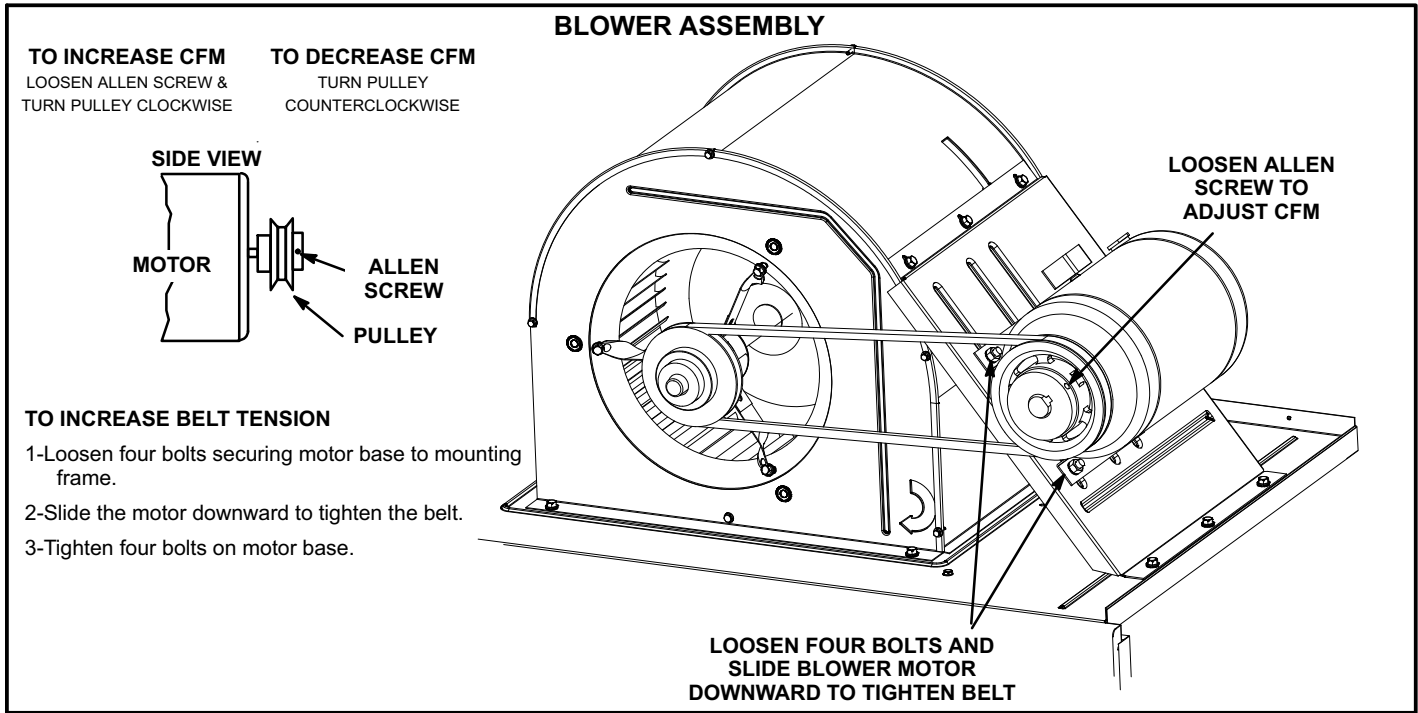

FIGURE 7
The blower RPM can be adjusted at the motor pulley. Loosen Allen screw and turn adjustable pulley clockwise in 1/2-turn increments to increase CFM. Turn counterclockwise in 1/2-turn increments to decrease CFM. See figure 7. Do not exceed minimum and maximum number of pulley turns as shown in table 3.
- 1- Loosen four bolts securing motor base to mounting frame. See figure 7.